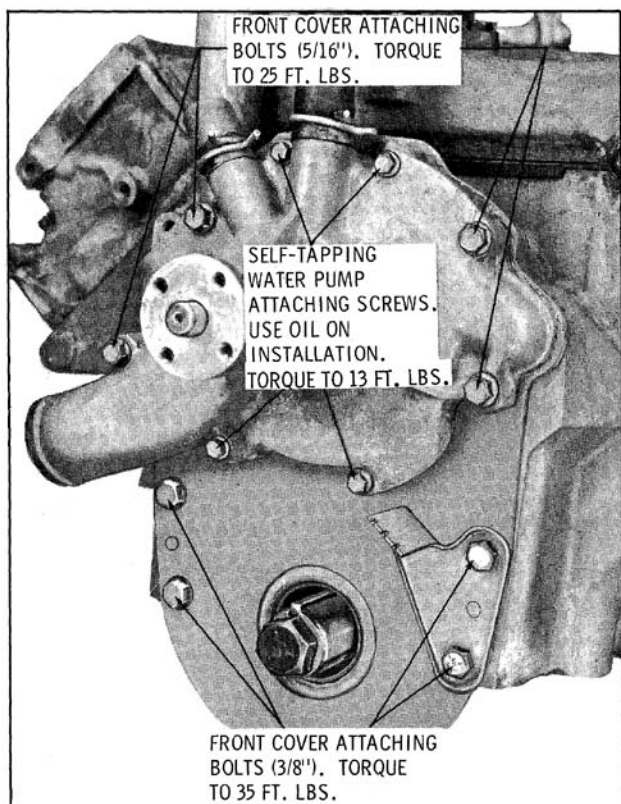

Fig. 3-90 Engine Front Cover Bolts
5. Remove cover to block attaching bolts and remove cover, timing pointer and water pump assembly. (Fig. 3-90)